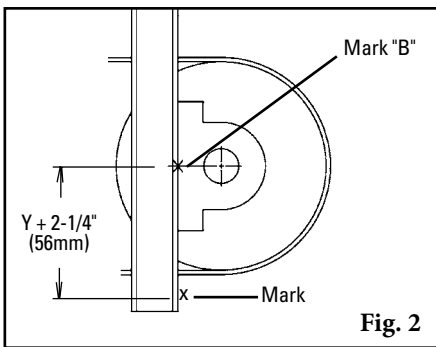

Fig. 2
- 3a. Mark X dimension.** Subtract the above dimension (Step 2a) from the selected X dimension to establish the modified X dimension. With this new X dimension measure horizontally from the front of the pulley shaft forward on Line B and mark on the chute (Fig. 2).
- 2c. Measure down the given Y dimension plus 2-1/4" (56mm) and mark (Fig. 2).** This mark indicates the top location of support material to be added for installing the cleaner mounting brackets.
- 8b. Assemble the tension spring and the J bolt mount to an adjusting arm (Fig. 2).** **IMPORTANT:** Allow for at least 4" to 5" (100-125mm) upward movement on the J bolt for future blade tip adjustments.
All shimming is done between the suspension arm bases and the pole plate (Fig. 2).
2. **Loosen both suspension arm nuts on tip to be shimmed.** Push the tip against the head pulley to move the suspension arms away from the pole plate (Fig. 2).